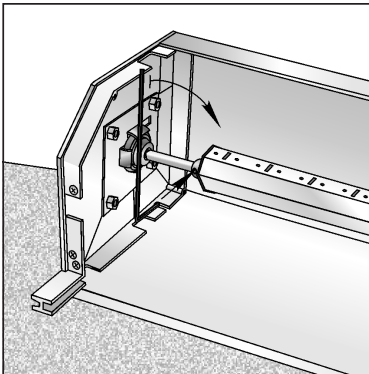

Fig. 25
- install the cap in the roll tube and fix its position by tightening the expansion screw (Fig. 25);